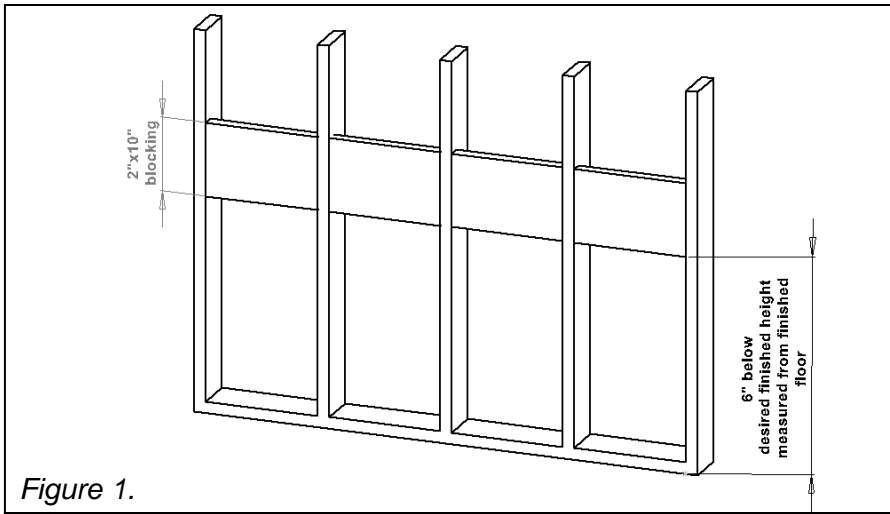

Figure 1.
1. Install 2x10 blocking in wall across entire width of SYNC assembly. *See Figure 1.*